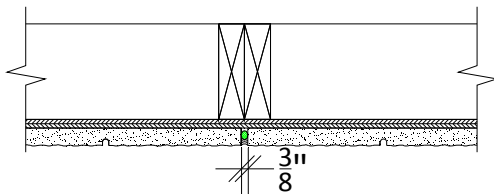

Fig. 5 - Vertical Panel Joint Spacing
- Continue installation with the intermediate panels filling the space in-between corner panels. Special care should be taken with the planning and the installation of these panels. To provide the best overall look measure the distance between corner panels and decide if the final panel install will provide the look required. Ensure that you have provided the correct spacing between panel edges. See fig. 5